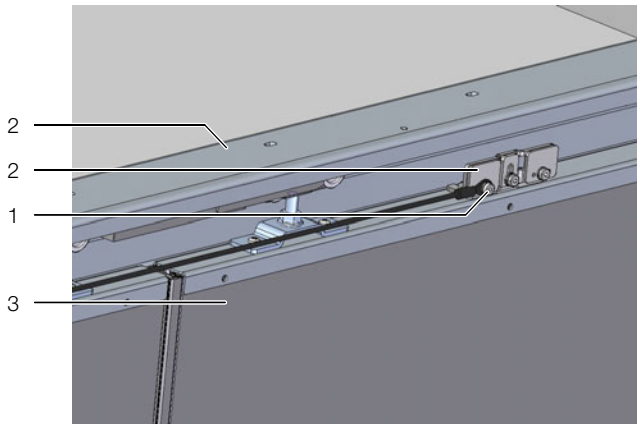

Fig. 42: Fastening the cord end to door follower 1
- Loosen the front screw from door follower 1. Route the cord end with the eyelet in front of the flanges and attach the eyelet to the screw for the door follower and refasten the screw to the door follower (fig. 42). Ensure that the cord does not rub against the flanges and the rolling apparatus